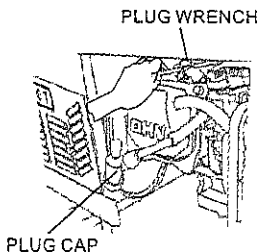
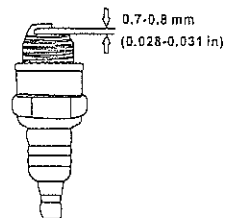

Figure 17- Removing the spark plug
Figure 18- Measuring the spark plug gap
2. Unscrew the spark plug from the generator using the spark plug wrench included with this product (see figure 17). Visually inspect the spark plug. If it is cracked or chipped, discard and replace with a new spark plug. Measure the plug gap with a gauge (see figure 18). The gap should be 0.7-0.8mm (0.028-0.031 in.).